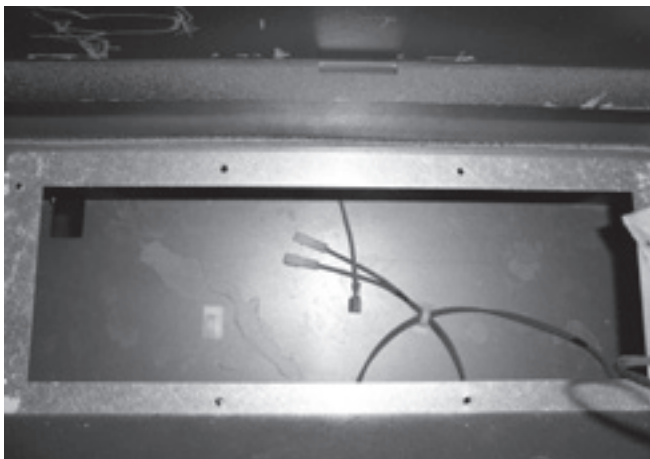

Figure 25
20. Looking down into the right hand cutout, locate two wires with white plastic connectors, and the green ground wire preattached to the fireplace bottom. **See Figure 25.** Connect these three wires to the mating right hand blower assembly wire connections. **See Figure 26.**